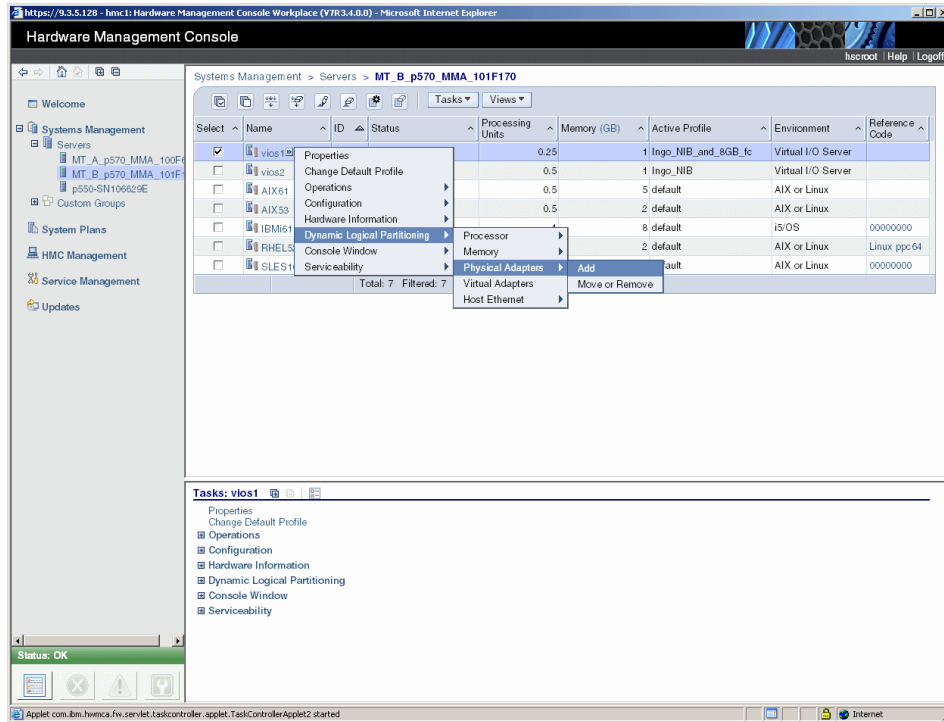

Figure 6-15 Add physical adapter operation
- On the **Tasks** menu on the right side of the window choose **Dynamic Logical Partitioning** → **Physical Adapters** → **Add** as shown in Figure 6-15.